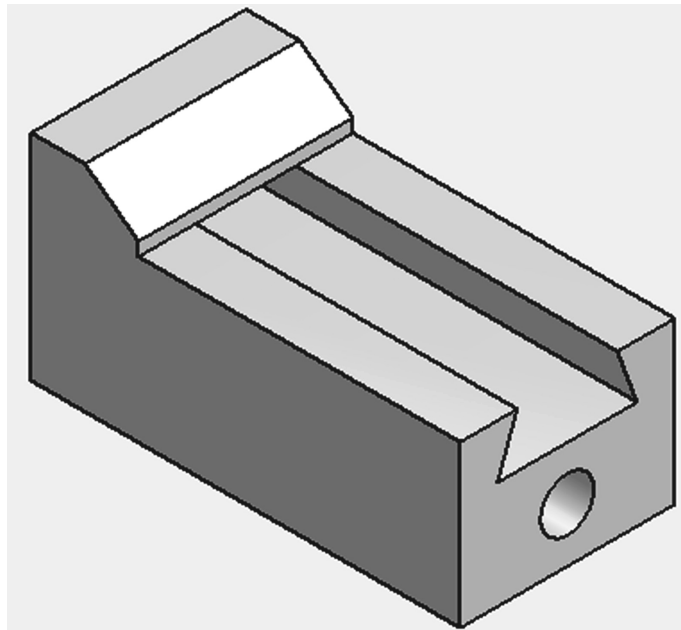

Figure 27
32. The isometric view will become a miniature solid model as shown in Figure 27.